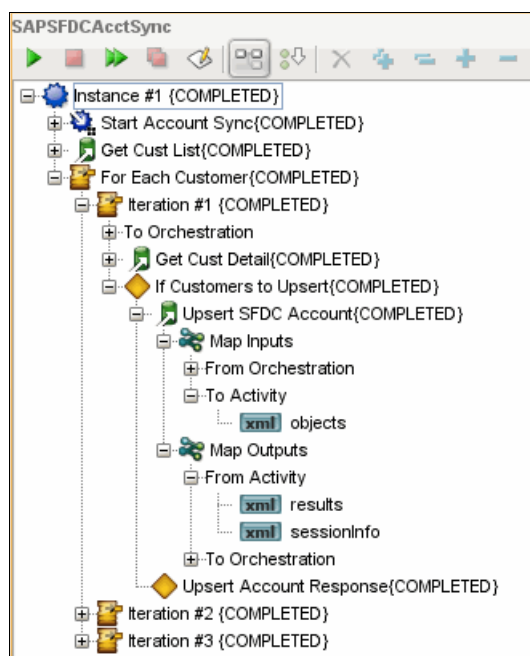

Figure 10-26 Orchestration test to verify the integration results
2. Studio shows that the orchestration is triggered and completes quickly, unless you have a lot of customer accounts that are processed or a connection problem. Expand the tree, Figure 10-26, and verify that each account was processed successfully.